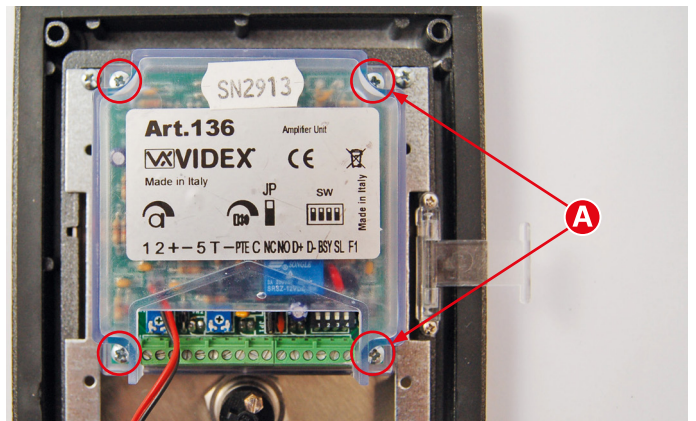

Fig. 20
2. Locate and then unscrew and remove the four M3x12 back speaker plastic retaining screws, as shown in **Fig.20, A**.